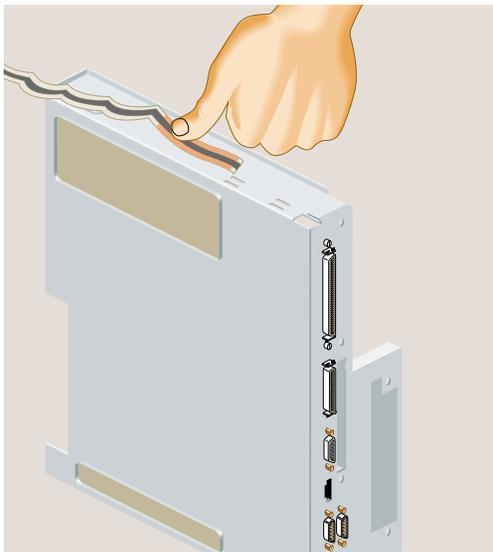

Figure 4 Attaching the Wrist Strap
5. Before touching any of the components, ground yourself to a metal part of the chassis. Attach the wrist strap as follows: (Figure 4)